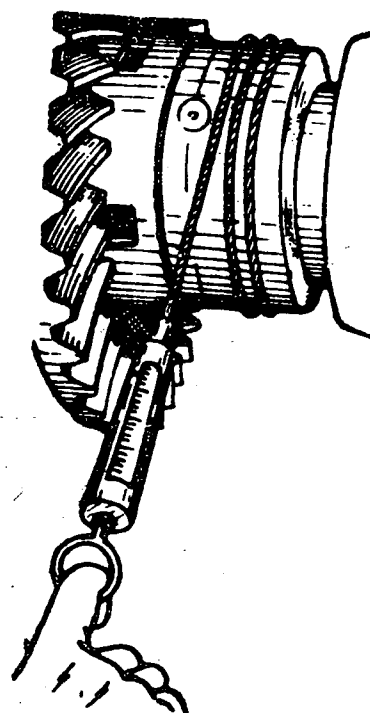

Fig. 5
- a) Place a dynamometer on the differential case (Fig. 5).